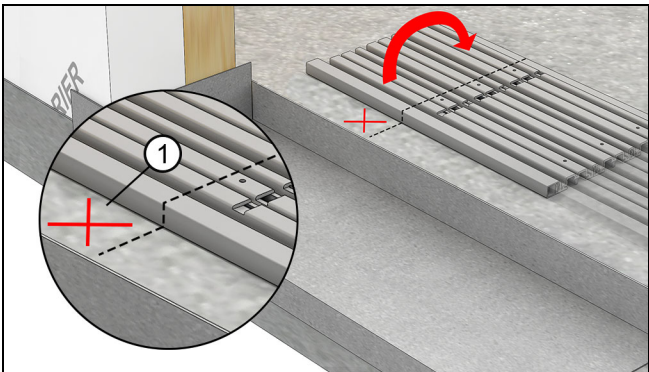

Figure 4
1. Temporarily place the HP **sill** component next to the opening. Mark the location of the holes on the RO subsill. This will help you locate the counter-shims. See Figure 4.